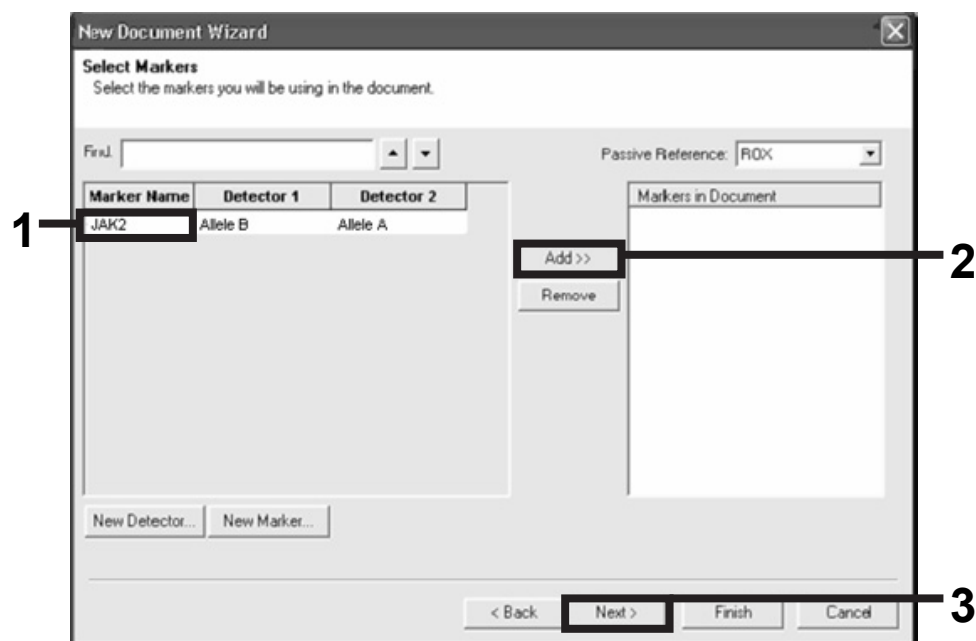

Figure 17. Selecting markers.
20. In the “Select Markers” dialog box, select “JAK2”, as created above, or a suitable predefined marker, and then click “Add>>” (Figure 17).